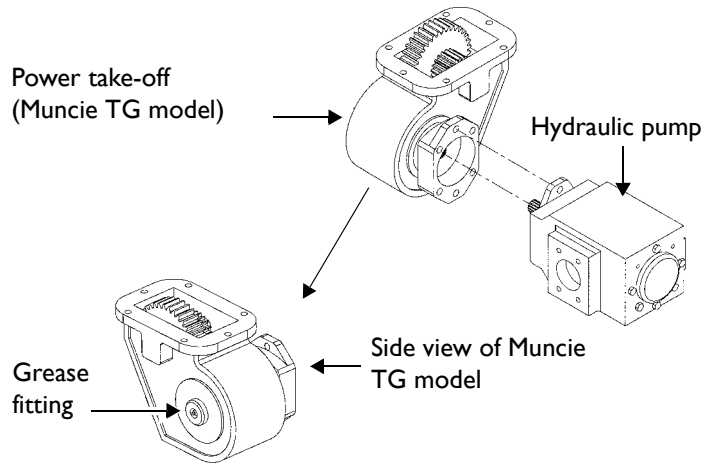

Figure 16
- Pump the grease gun **twice** into the grease fitting on the side of the power take-off (see *Figure 16*, below).